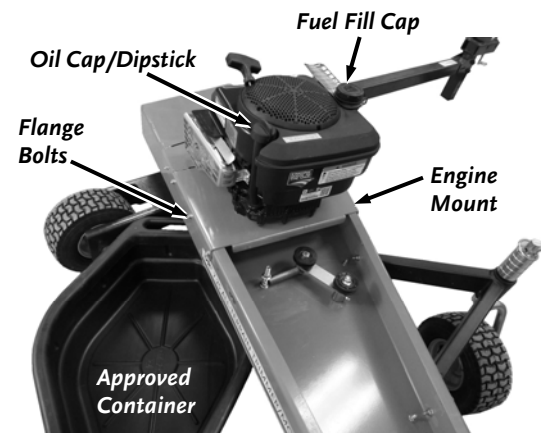

Figure 34
2. Remove the six Flange Bolts that secure the Engine Mount to the Frame using a 3/8" Wrench (**Figure 34**).
7. Position the Engine Mount onto the Frame and secure with the six Flange Bolts using a 3/8" Wrench (**Figure 34**).